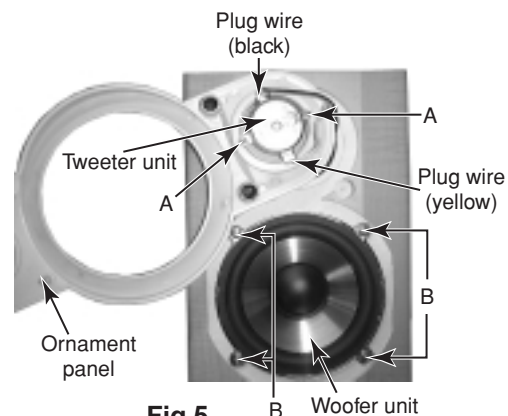

Fig.5
■Removing the tweeter unit (See Fig.5)
2. Remove the four screws B attaching the woofer unit. (See Fig.5)